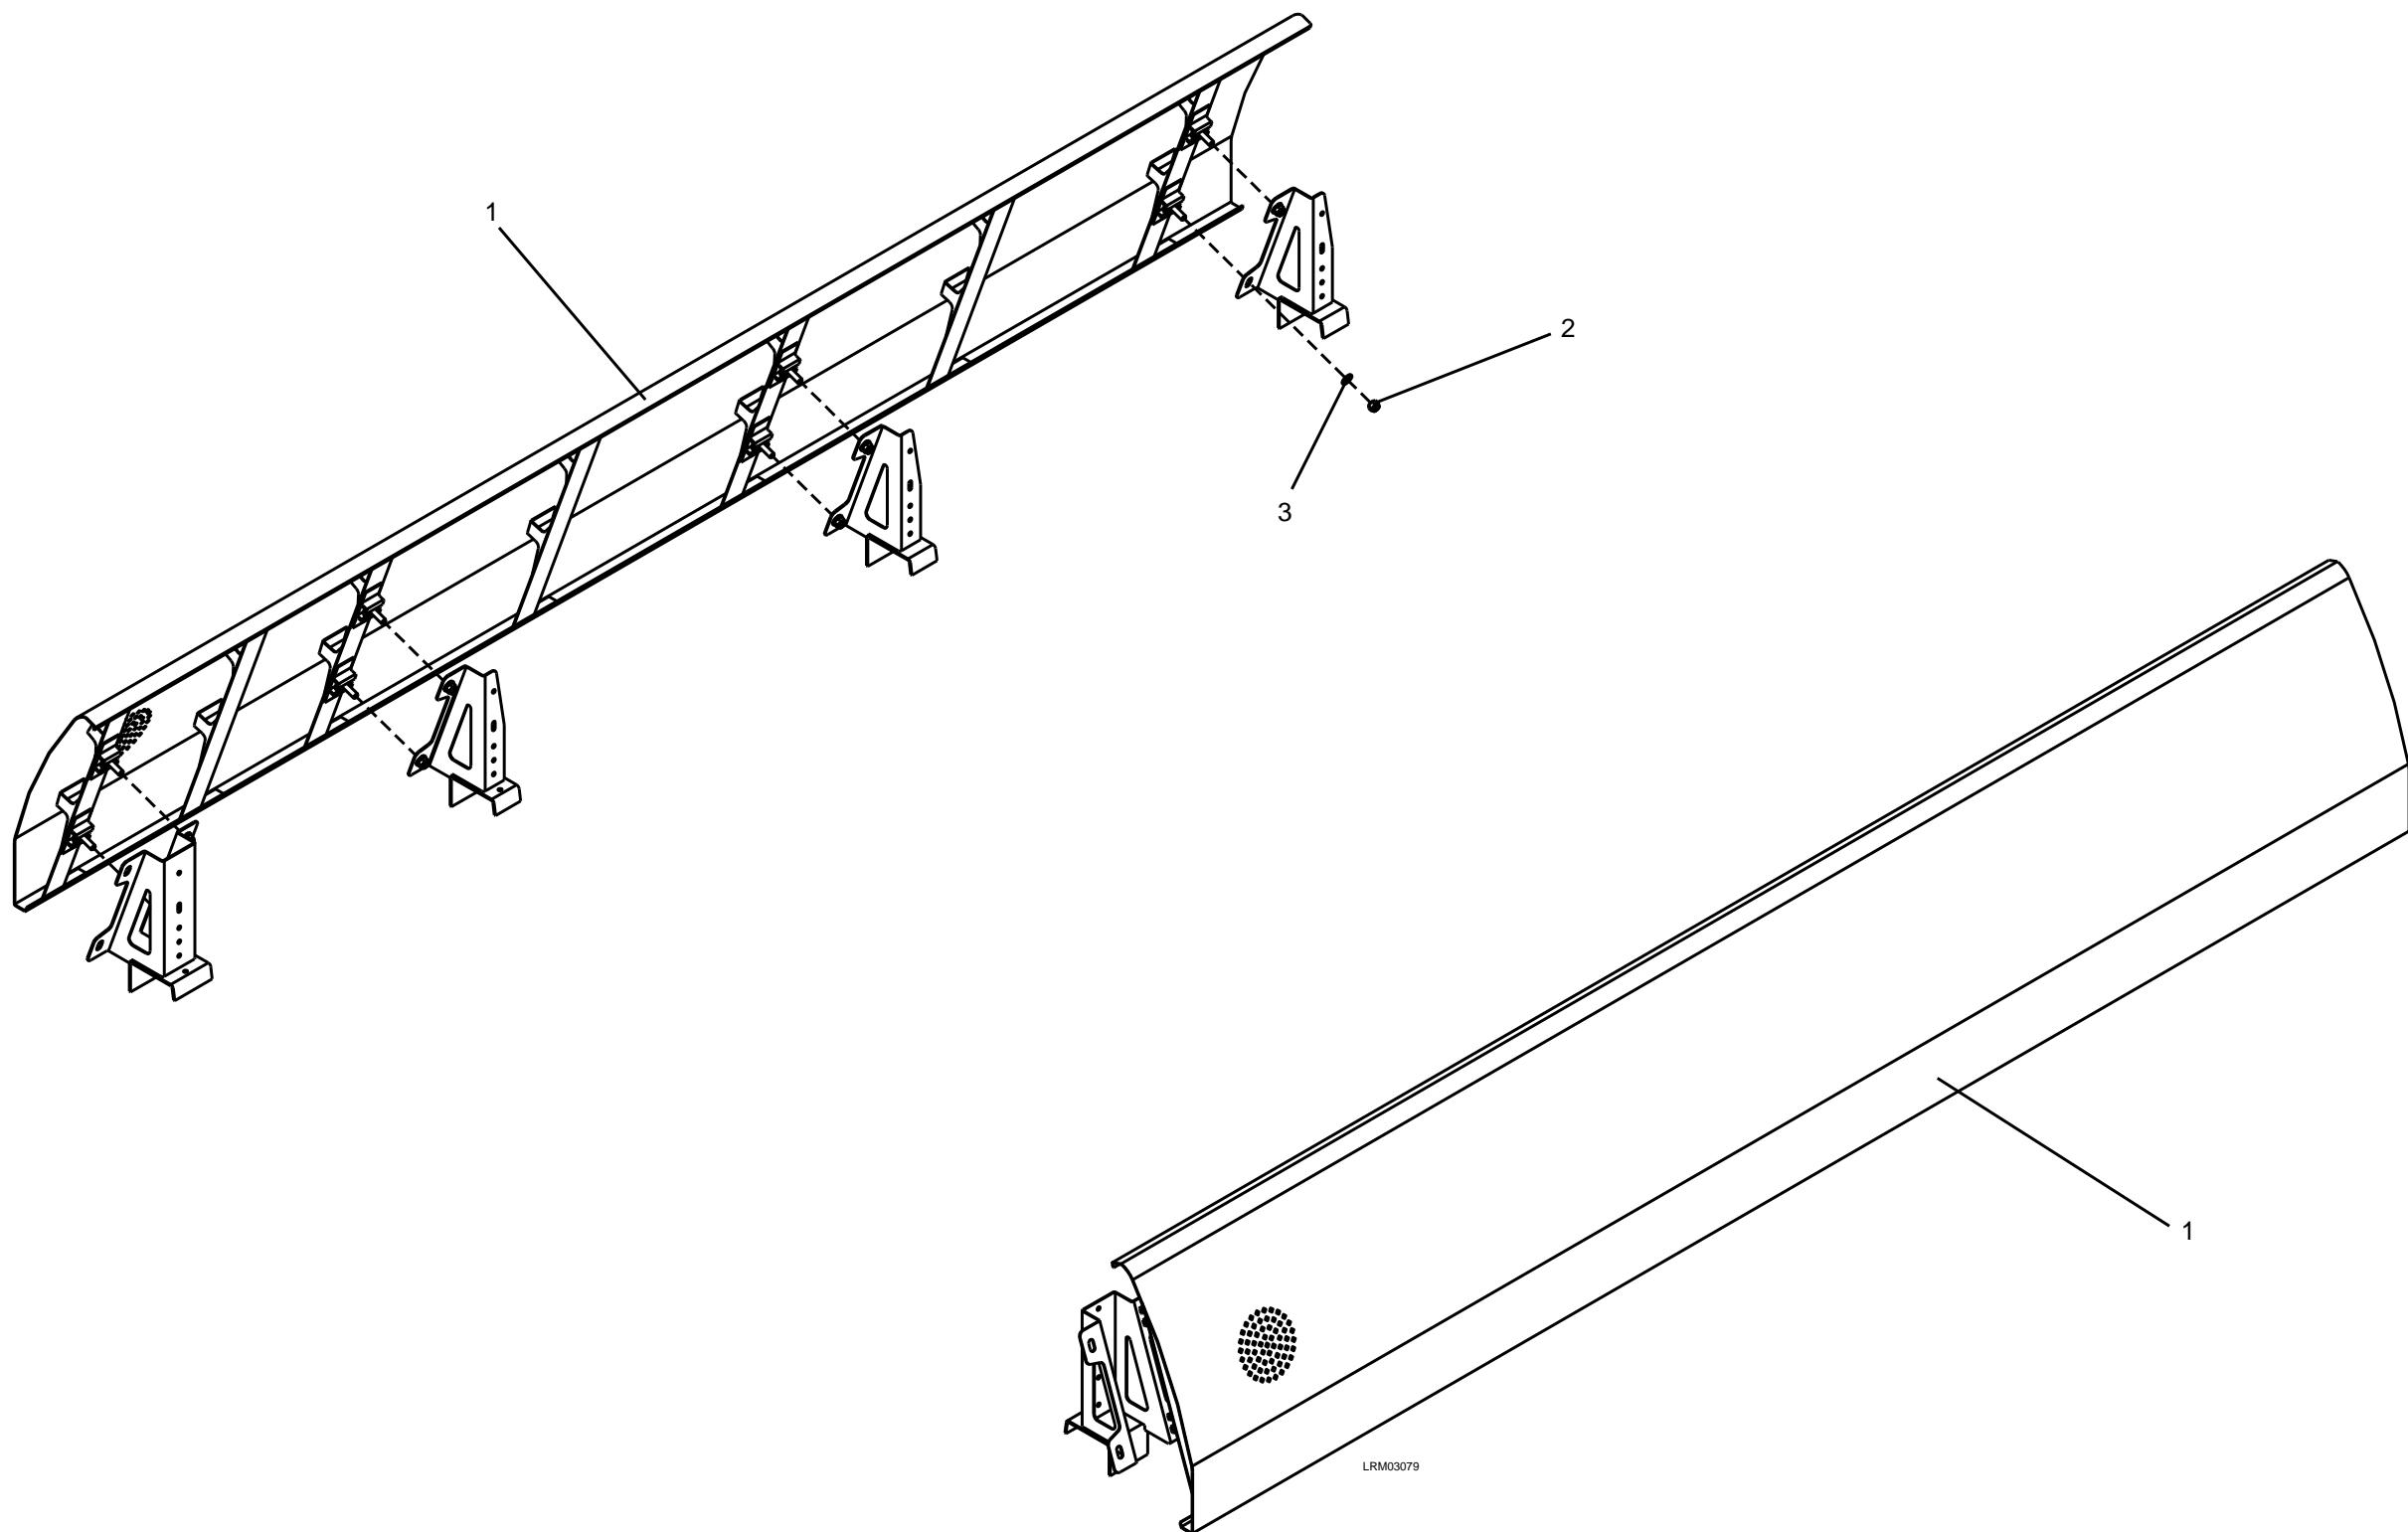

Figure 7-125: Roof Shroud, Group C
1. Remove the eight M10 ESNA nuts (2) and M10 plain washers (3). See Figure 7-125.
2. Carefully remove the Roof Shroud (1).